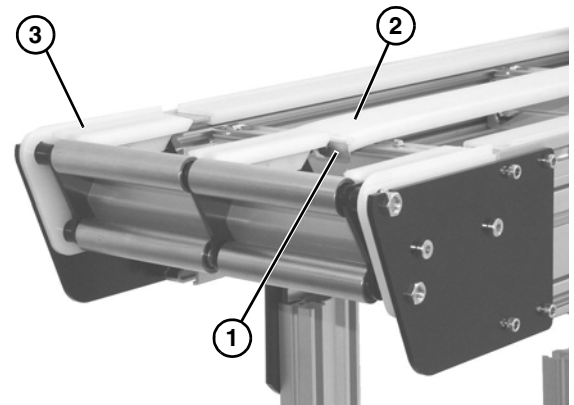

Figure 23
The stop plate (**Figure 23, item 1**) on the center wear strip (**Figure 23, item 2**) faces the idler end (**Figure 23, item 3**) of the conveyor.